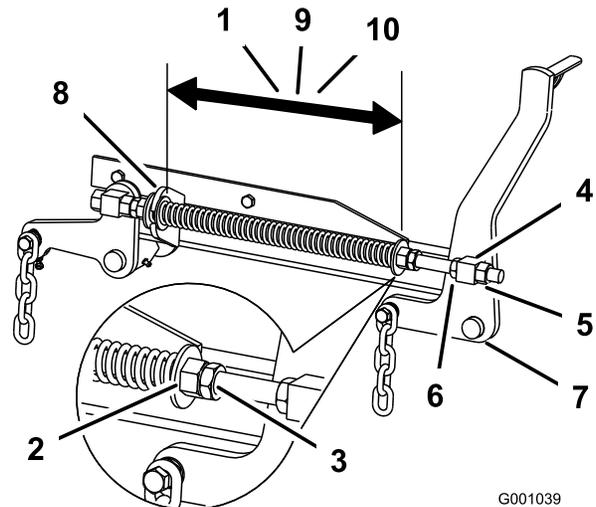

Figure 114
2. Check the distance between the 2 large washers, it needs to be 28.2 cm (11-1/8 inches) for 52-inch mower decks, 26.7 cm (10-1/2 inches) for 60-inch mower decks, or 29.2 cm (11-1/2 inches) for 72-inch mower decks (Figure 114).
3. Adjust this distance, by loosening the spring-jam nut and turning the nut in front of each spring (Figure 114).
4. Lock the nut into position by tightening the spring-jam nut (Figure 114).